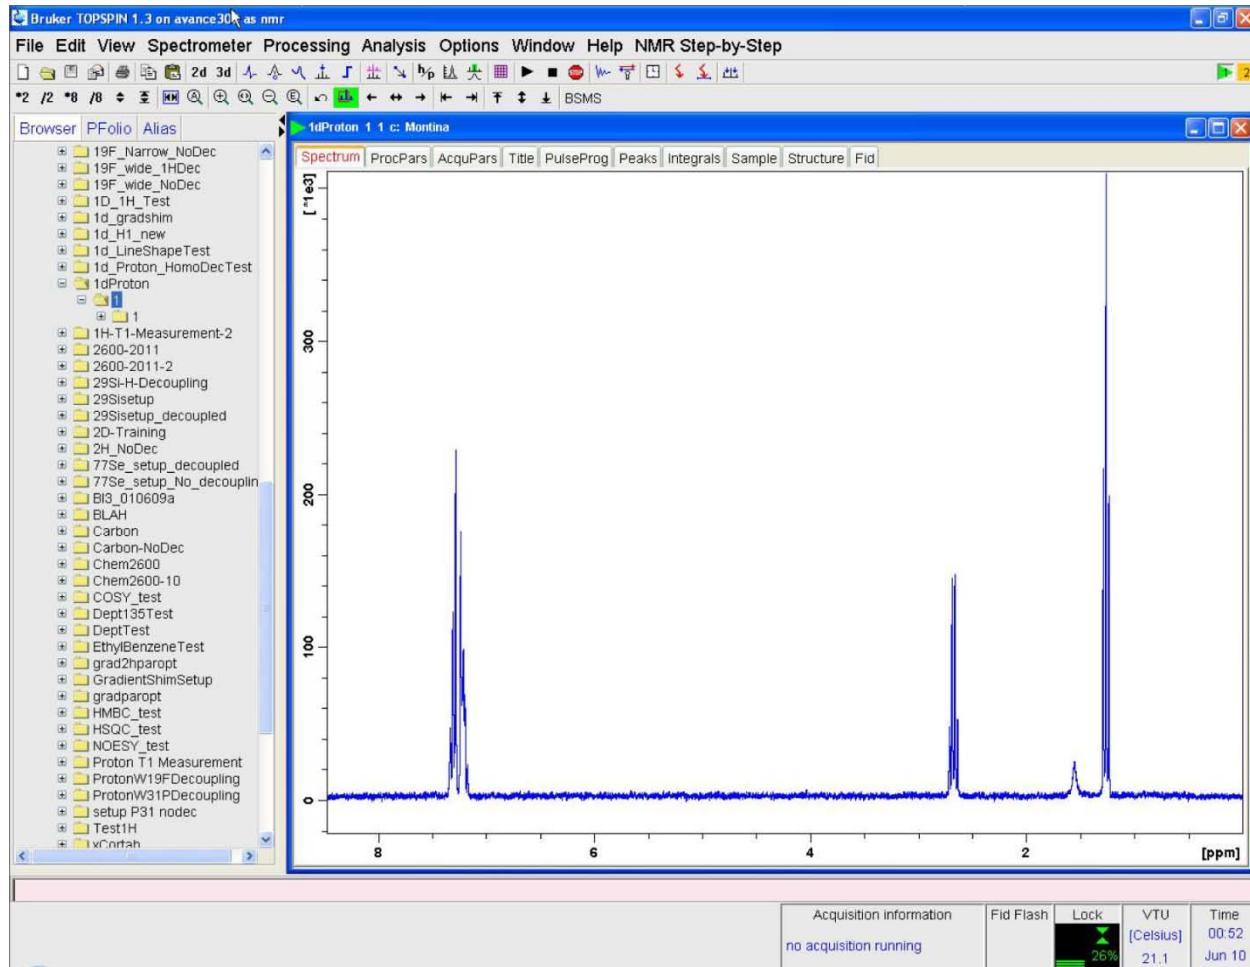

Figure 20 Spectra obtained after carrying out an automatic phase correction.
(17) Now you must apply automatic phase correction to the spectra. This can be done by left clicking on “Phase Correct” in the NMR step-by-step menu. The result of automatic phase correction for the spectra shown above can be seen in Figure 20.